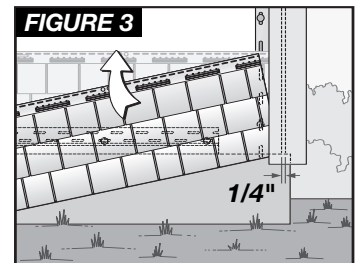

FIGURE 3
2) Starting on the right side of the wall, hook the bottom locking leg of the panel into the starter strip and slide panel into the cornerpost or receiving channel (figure 3). Leave 1/4" space between the panel and the corner for expansion. If you are planning to install the Mitered Cornerpost, space the panel 3" from the corner.